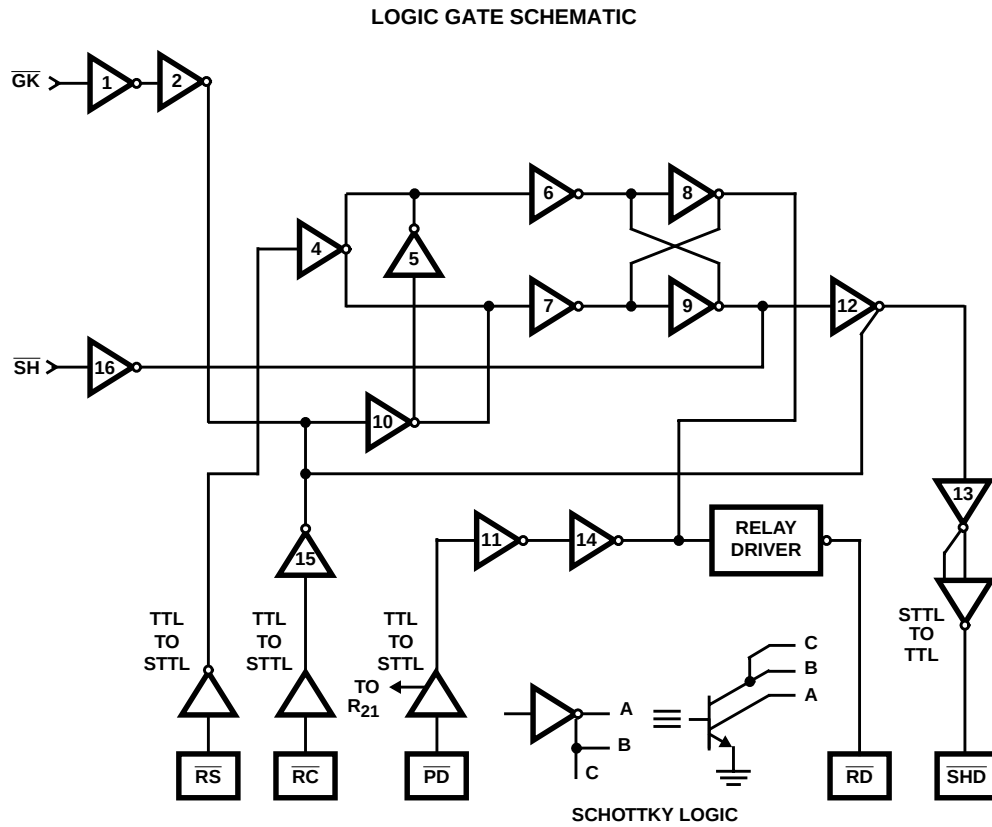

FIGURE 9. LOGIC NETWORK
Figure 9 is a schematic of the combination logic within the network. The external inputs $\overline{RC}$ (Relay Control) and $\overline{PD}$ (Power Denial) allow the switch controller to ring the line or deny power to the loop, respectively. The Ring Synchronization input (RS) facilitates switching of the ring relay near a ring current zero crossing in order to minimize inductive kickback from the telephone ringer.